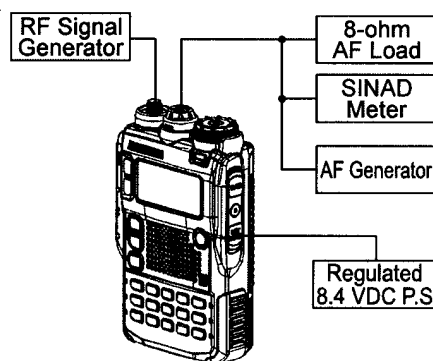

Figure 2: RX Alignment Setup
- ☐ Connect the test equipment as shown in Figure 2: RX Alignment Setup.